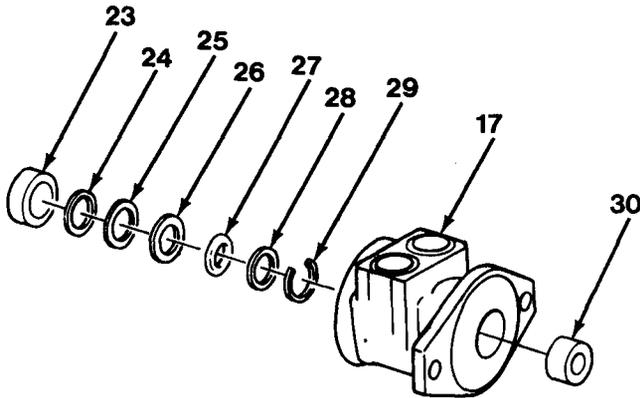

Figure 13-8
10. Position swing motor in a soft-jawed vice as in step 1. Using a bearing puller, remove inner bearing (23), thrust washer (24), thrust bearing (25), thrust washer (26), inner seal (27) and back-up washer (28) from housing (17, Figure 13-8). Discard inner bearing (23).
11. Using snap ring pliers, remove retaining ring (29).
12. Using a bearing puller, remove and discard bearing (30).